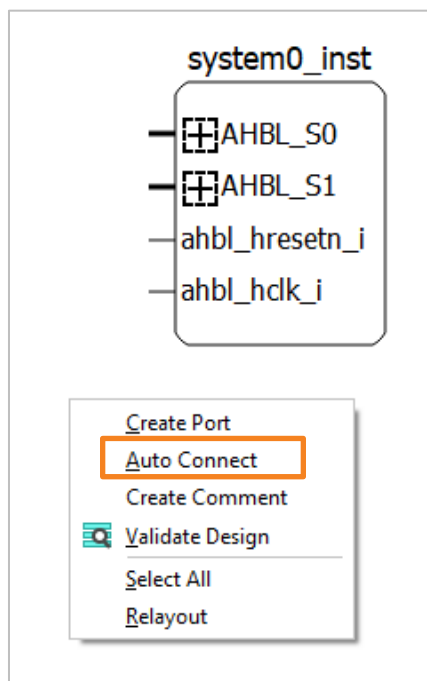

Figure 2.84. Action Menu of Right-clicking on a Blank
1. Right-click on Schematic view and choose **Auto Connect** (Figure 2.84). The Connect Ports dialog appears (Figure 2.85).